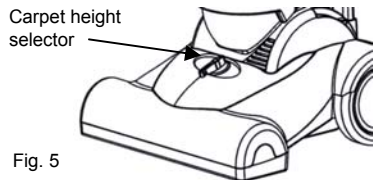

Fig. 5
2. Select a pile height setting by rotating the carpet height selector to the desired setting. (Fig. 5)